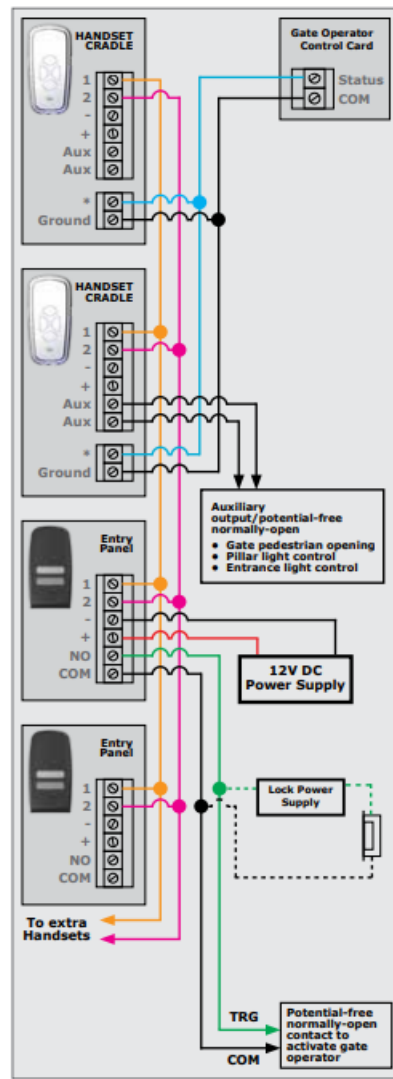

FIGURE 31
3. Figure 31 shows the 12V Battery Supply of gate motor connected to the entry panel to power the system.